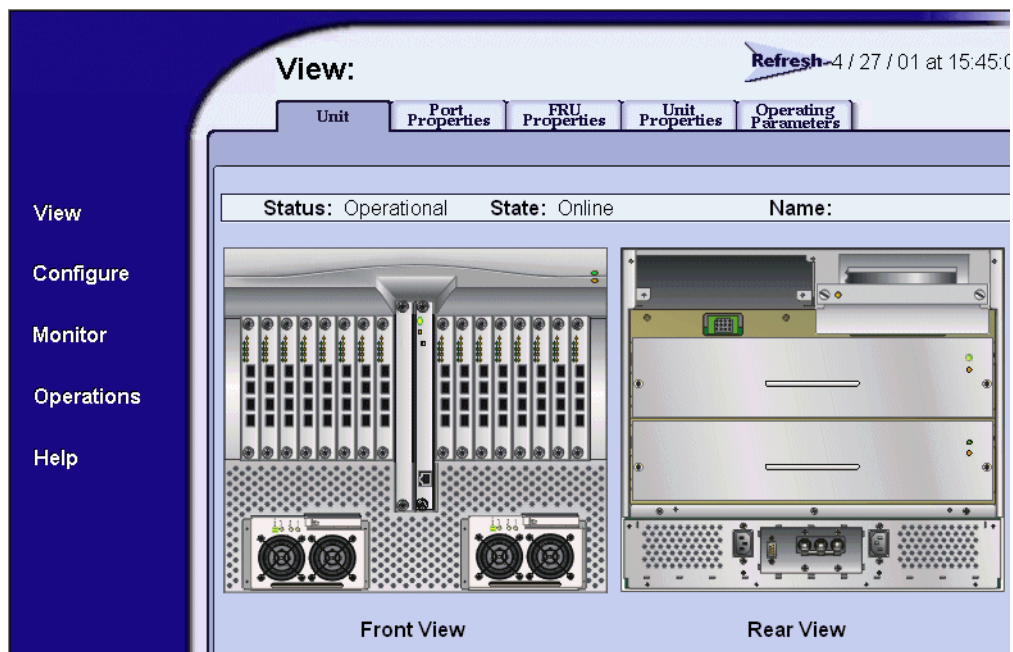

Figure 2-5: View Unit Panel
4. Type the user name and password obtained in step 1, and click OK. The embedded web server interface opens with the View panel (Figure 2-5) displayed.